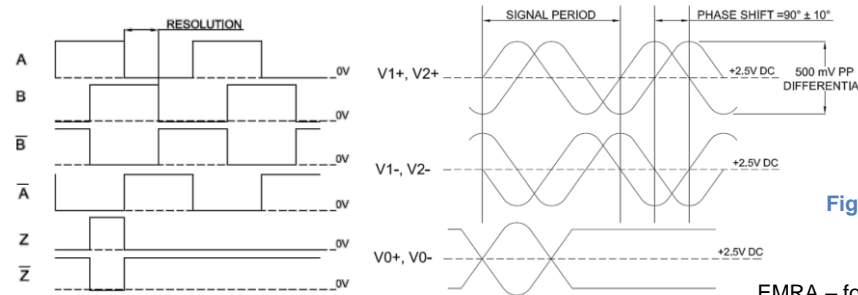
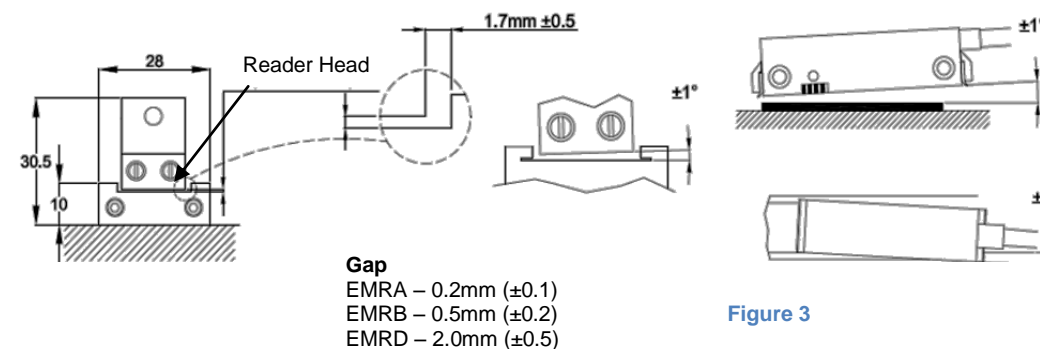

Figure 2
Figure 3
Reader head: Standard gap between reader head and scale should be as per given in table in Figure 3. A plastic shim is provided to maintain this gap between reader head and scale during installation. Refer Figure 2 for further alignment data.
- Keeping the plastic shim on the scale secure the reader head on mounting bracket while pressing it onto plastic shim. This ensures gap between scale and reader head is as per table in Figure 3.